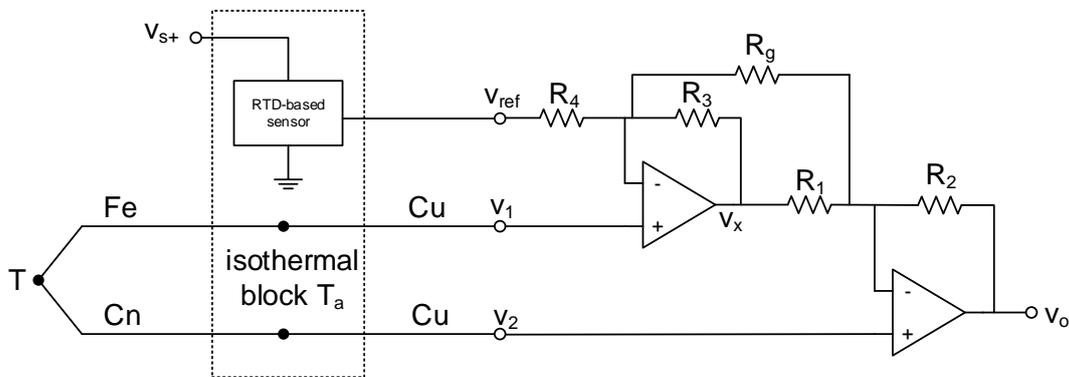
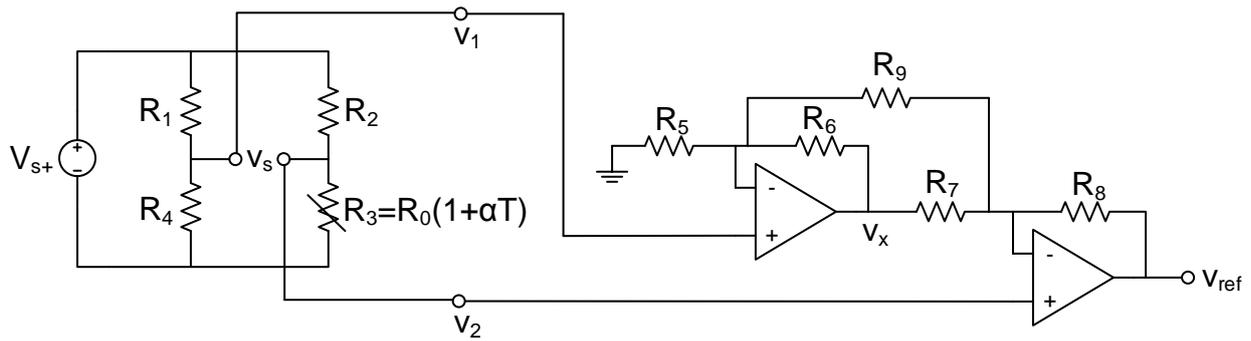

Figure 5: Compensation with a RTD-based sensor and instrumentation amplifier.
Figure 6: Implementation of “RTD-based sensor” block of Figure 5.
The thermocouple in Figure 5 contains a reference junction compensation based on a RTD temperature sensor. The output voltage of this sensor (v_{ref}) is given by the following transfer function: $v_{ref} = 10mV/^{\circ}C \cdot T_a$ with T_a the environmental temperature at the reference junction. The output of the reference temperature sensor is connected to the reference input of the instrumentation amplifier. It holds for this instrumentation amplifier:
- (5p) (a) There are three important law that you can use when analysing thermocouples, namely the law of the homogeneous circuits, the law of intermediate metals, and the law of intermediate temperatures. Show using these laws that the voltage across the thermocouple shown in Figure 5 is equal to:
- (5p) (c) The circuit shown in Figure 6 is used to generate the reference voltage v_{ref} for the thermocouple sensor shown in Figure 5. In other words, Figure 6 shows the internals of the block “RTD-based sensor” in Figure 5. Assume that the supply voltage v_{s+} is equal to 5 V. Assume further that resistor R_3 is a temperature dependent resistor (RTD) of type PT100. Its relation between temperature and resistance (transfer function) can be approximated with the following linear equation: $R_3(T) = R_0(1 + \alpha T)$, with R_0 equal to 100Ω and $\alpha = 0.004/^\circ\text{C}$. Assume also that $R_4 = R_5 = R_6 = R_7 = R_8 = R_9 = R_0$ and $R_1 = R_2 = k \cdot R_0$. What resistance should the resistor R_2 have to ensure that the “RTD-based sensor” has a sensitivity of $10\text{mV}/^\circ\text{C}$?